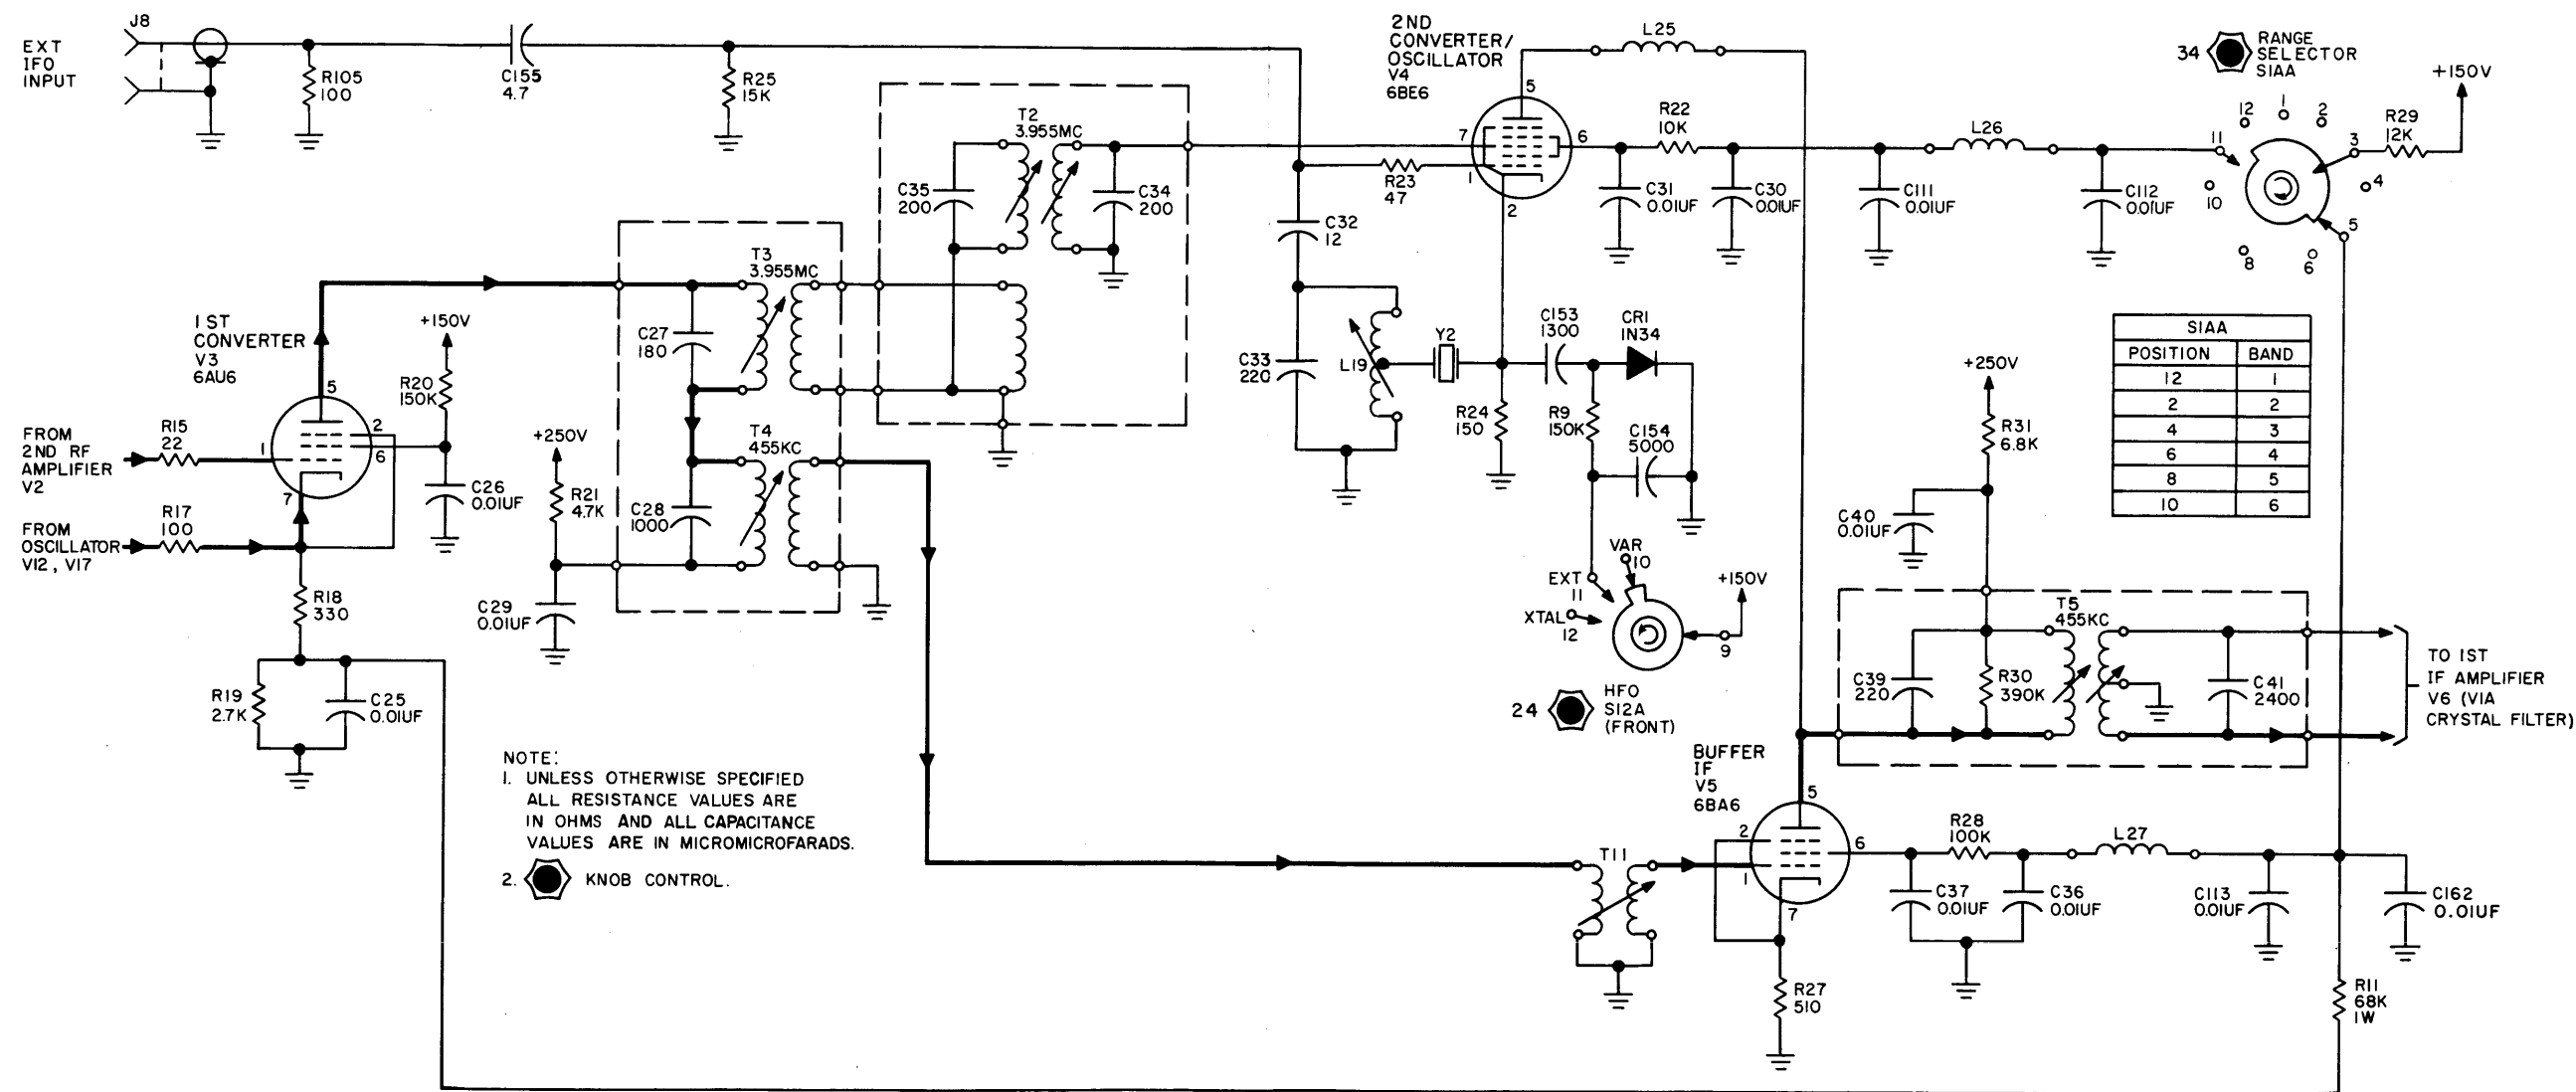

Figure 4-6. Schematic Diagram,
d. FIRST AND SECOND CONVERTERS. (See figure 4-6.) - The signal output from RF amplifier V2 is applied to the control grid of first converter V3, and the output of the local oscillator in use (V12 or V17) is applied to the cathode of V3. These signals mix to produce an IF signal, the frequency of which is dependent upon the band in use. When operating in bands 1, 2, or 3, the IF signal is 455 kc. This signal is applied through buffer IF amplifier V5 and IF transformer T5 to IF amplifier V6 through a crystal filter. When the GPR-90RXD is operated in these bands, single conversion is used. The gain is extremely high at this time since second converter V4 is not used. (Second converter V4 is a pentagrid converter, the gain of which is usually less than unity.) Since the attenuating property of the second converter is not available during single conversion, the gain of the first converter is substantially reduced by injecting a positive voltage into the cathode circuit of V3. In this way, the gain of the GPR-90RXD is kept fairly constant on all bands and stability is assured on the lower three bands.